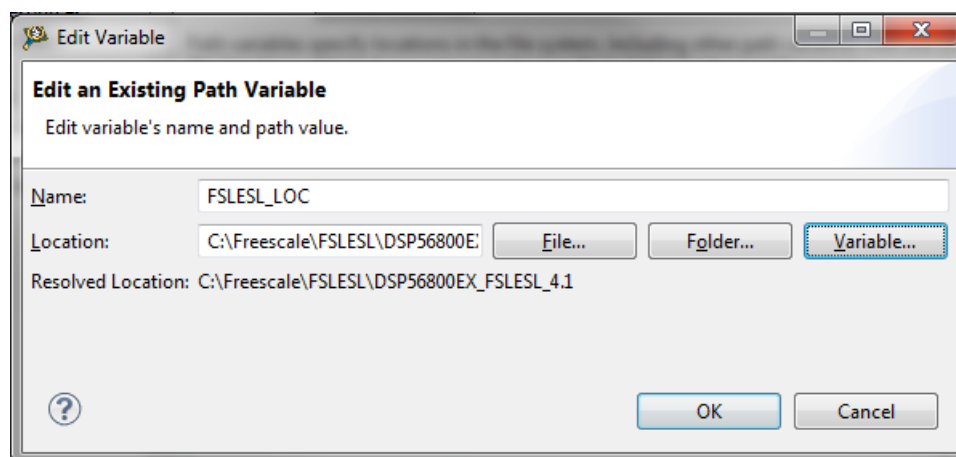

Figure 1-7. New variable
4. In the dialog that appears (see Figure 1-7), type this variable name into the Name box: FSLESL_LOC